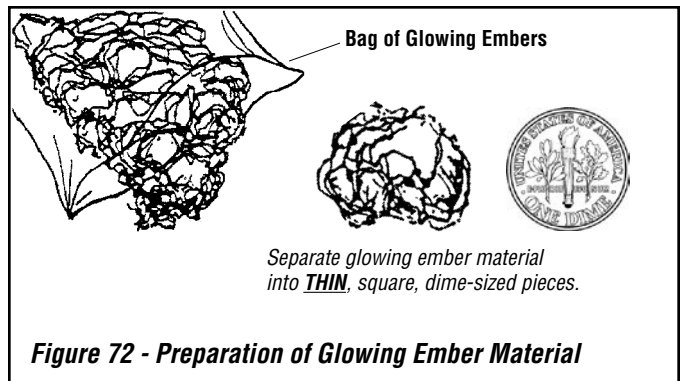

Figure 72 - Preparation of Glowing Ember Material
a) Separate some of the glowing ember material into pieces **about the size and thickness of a dime** (see **Figure 72**). Keep the pieces fluffed up, not matted.
b) Distribute the dime-sized pieces over the surface of the burner, in the areas shown in **Figures 72 and 73**.